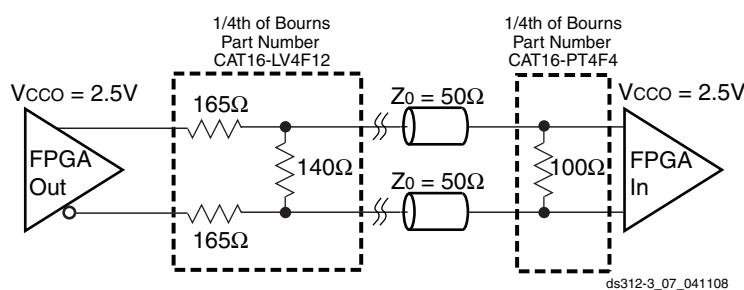

Figure 71: External Termination Resistors for BLVDS Transmitter and BLVDS Receiver
2. Output voltage measurements for all differential standards are made with a termination resistor ( $R_T$ ) of  $100\Omega$  across the N and P pins of the differential signal pair. The exception is for BLVDS, shown in Figure 71.